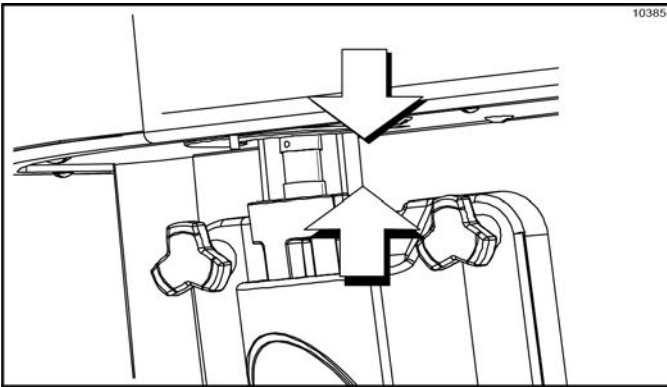

Figure 6-16
16. Raise the locking collar of the spinner coupling and insert the spinner shaft into the cavity of the coupling until the locking collar can drop into the locked position. (See Figure 6-16.)